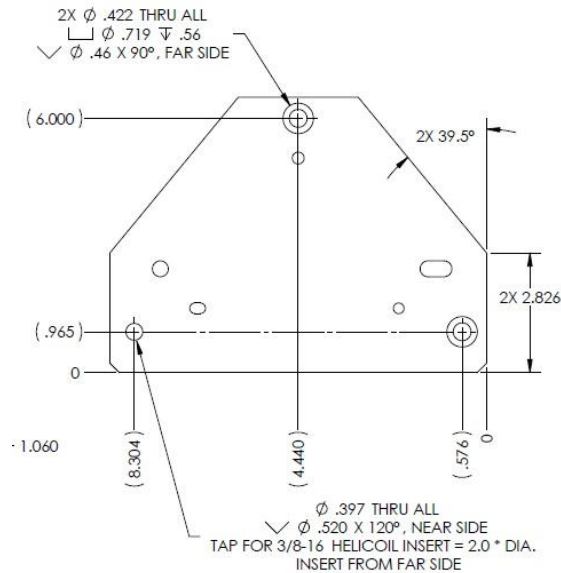

Figure 159: Prep Work for D0902283 Interposer Plate
(1) 3/8-16 x 2 DIA Helicoils
- Install Nitronic 60 Helicoil threaded inserts into D0902283. See Figure 159.